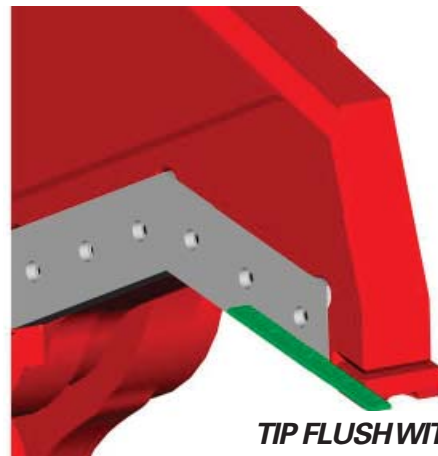

FIGURE 5-31
4. Place the new tip into the seat. Use a straightedge to position the tip before tacking it into place. The side edge of the new tip should be flush with the face of the blade (see **Figure 5-31**).